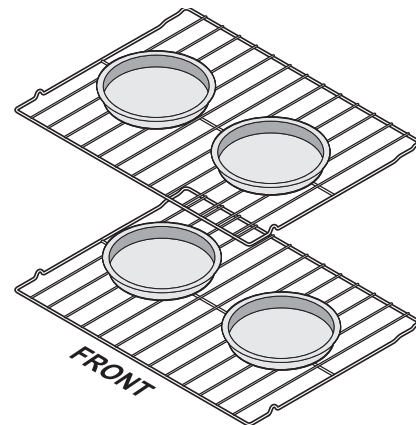

Figure 6: Pan placement
- When baking using two oven racks, position bakeware as shown in Figure 6. Allow at least 2 inches (5 cm) of space between bakeware for proper air circulation.